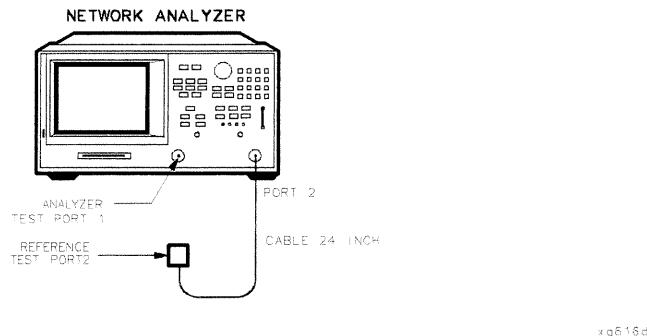

Figure 2-33. First Full 2-Port Calibration Test Setup
1. Connect the equipment as shown in Figure 2-33.